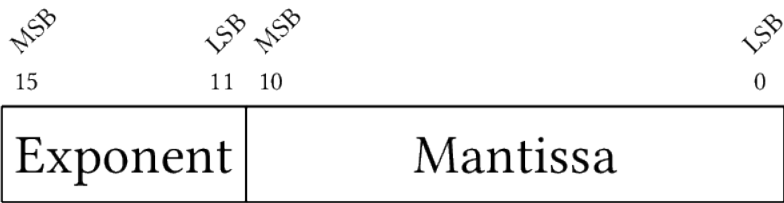

Fig. 3.1: The PMBus Linear data format
All physical quantities are expressed in the 16-bit PMBus Linear data format (Fig. 3.1), instead of the Direct format PMBus also supports, (which is somewhat more complex). An 11-bit mantissa (Y) and a 5-bit exponent (N), expressed in 2’s complement, form a floating-point number X according to $X = Y \cdot 2^N$.